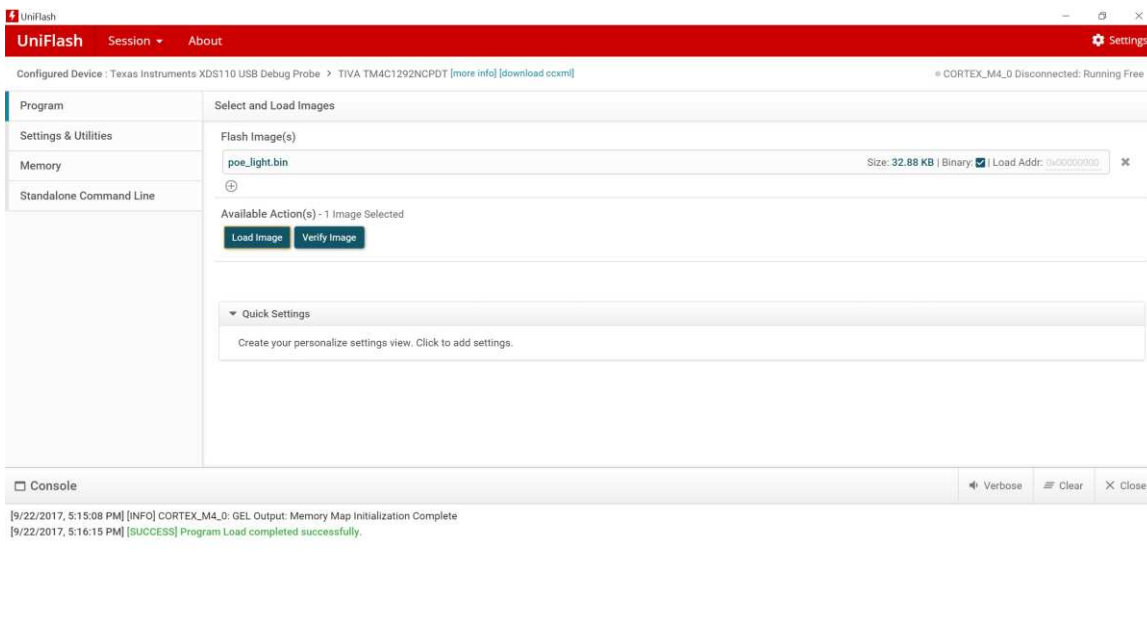

图 18. Flashing the PCB in UniFlash
2. To flash an image on to the TM4C1292NCPDT, navigate to the *Program* tab on the left sidebar. Browse for the *poe\_light.bin* file (downloaded from TIDA-01463 tools folder), then click *Load Image* (see 图 18).